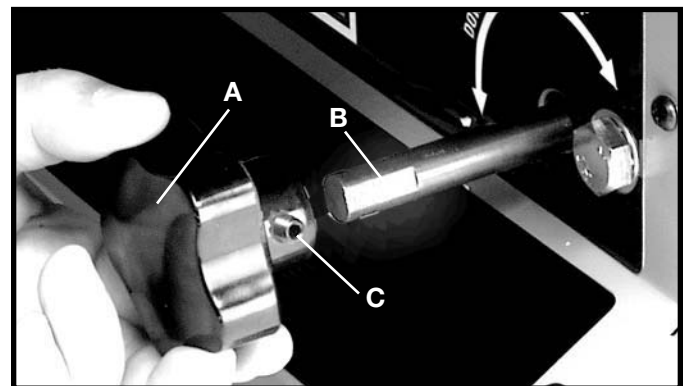

Fig. 5
1. Assemble handle (A) Fig. 5, to shaft (B) making sure the flat on inside of handle lines up with flat on shaft.
2. Fasten handle (A) Fig. 5, to shaft using a M6x1x8mm set screw (C), with the 3mm hex wrench supplied.